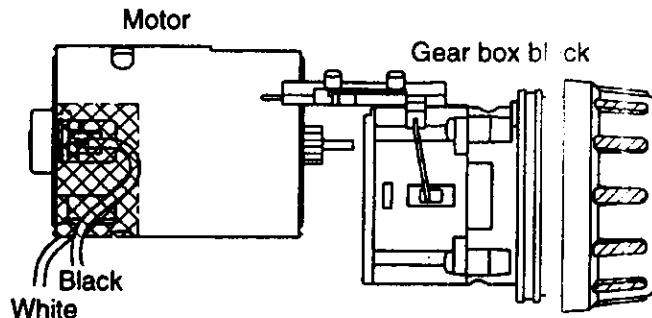

Fig.6
3. Motor mounting base and the positioning rib of gear case should be set. (See Fig. 6)